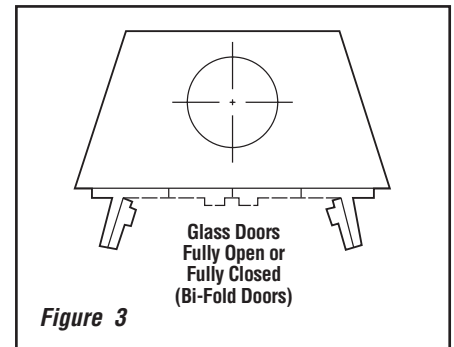

Figure 3
**Your fireplace is equipped with glass doors, it should be operated with the doors fully open or fully closed. If the doors are left partially open, gas and flames may be drawn out of the opening, creating risks of both fire and smoke. Refer to *Figure 3* for proper operating conditions.**